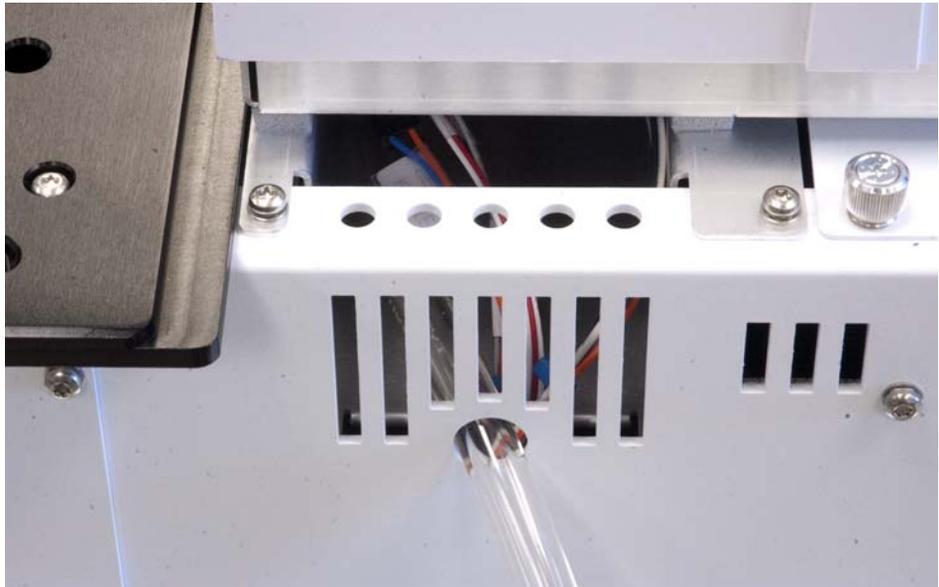

Figure 56 Drainage tubing run correctly through chassis hole, and cabling tucked correctly in opening of main frame chassis
- 41 Check to make sure the cabling and drainage tube on the back of the main frame looks similar to Figure 56 with no protruding cables and a straight, non-kinked tube.